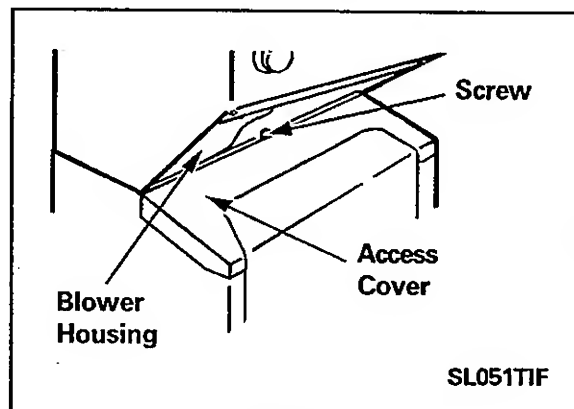

Figure 4-3
3. Locate and remove the 5/16" hex head screw located in the front of the dryer base frame (*Figure 4-3*). This screw secures the access cover to the base frame.